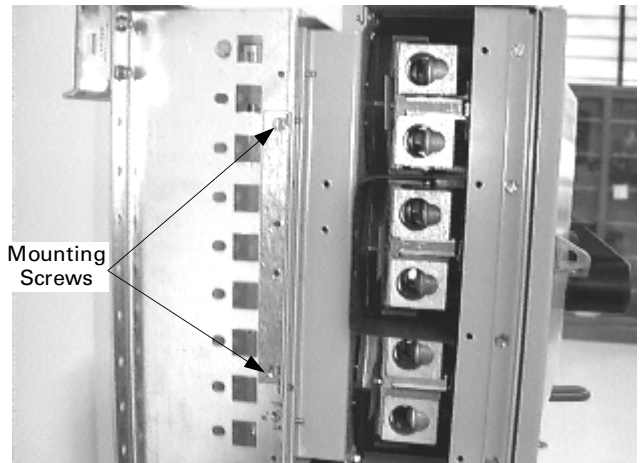

Figure 2. Mounting the switch to the interior rail.
2. **Mount the switch.** Secure the switch in position on the interior rail with the two self-tapping screws provided, as shown in Figure 2. Tighten the screws to 27 in-lb.